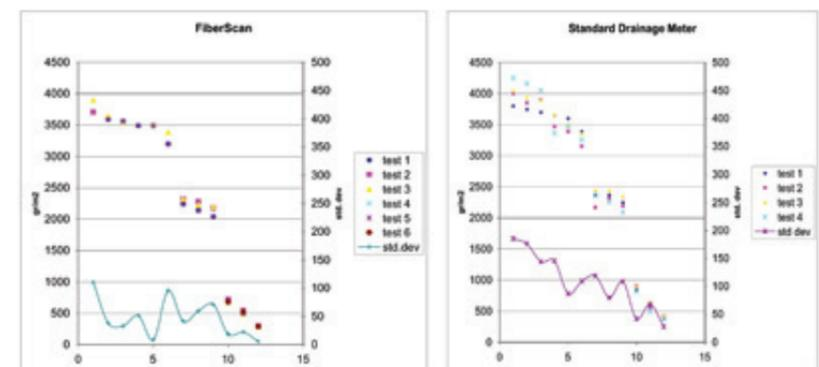

Fig 4 Repeatability of the readings: CV analysis
The high sampling rate, the microwave technology employed and the special sensor case design made the readings very reliable and with high repeatability. Fig.4 shows the comparison test performed on the same machine by the same operator, in the same conditions. The lower standard deviation (CV) of FiberScan™ is very clear compared to traditional consistency meters. This becomes more important closer to the couch roll, where a higher reading variation can heavily affect the precision of the consistency calculations.